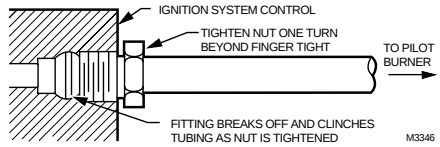

Fig. 7. Always use new compression fitting.
- 4. Slip the fitting over the tubing and slide out of the way as shown in Fig. 7.